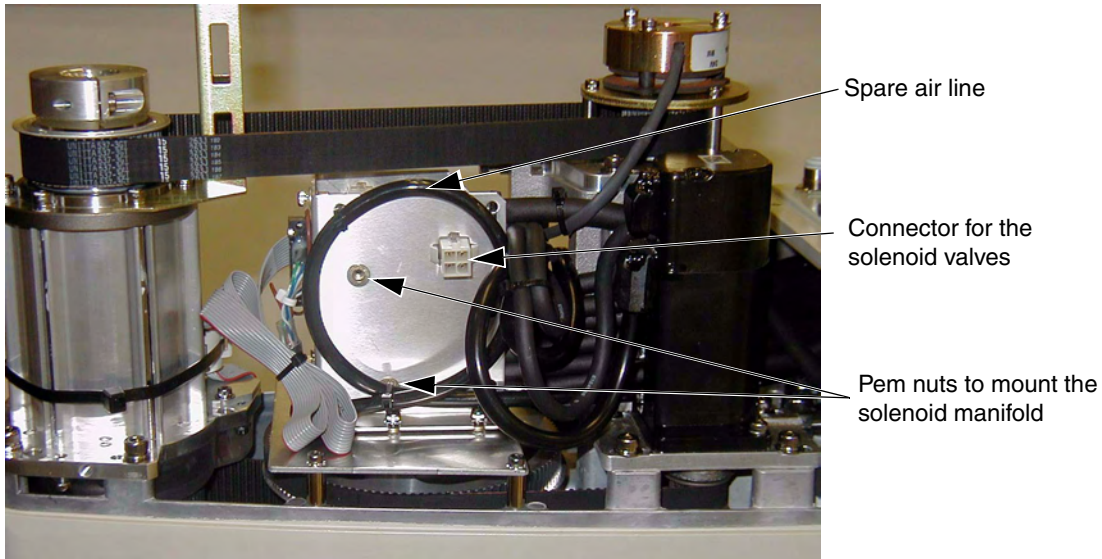

Figure 6-8. Solenoid Mounting Bracket With Connector and Spare Air Line
The robot has been prewired to accommodate a bank of two 24 VDC solenoid valves. Power for the internal mounting is accessible via a connector mounted inside the outer link cover (see Figure 6-8 on page 79). The signals actuating the valves are directly switchable from V⁺ utilizing software signals 3001 and 3002. Refer to the SIGNAL command in the V+ Language Reference Guide for additional information. The Adept supplied solenoids each draw a nominal 75 mA from 24 VDC.
4. Cut and discard the tie-wraps holding the spare air line at the top of the mounting bracket. Move the air line away to facilitate the mounting of the solenoid manifold (see Figure 6-8).